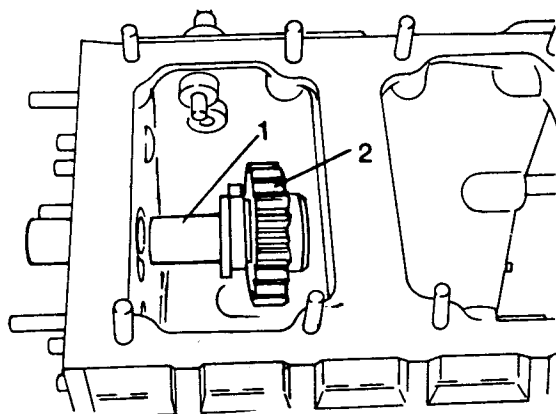

Fig H1.136
- (4) Refer to Fig H1.136. Push the shaft (1) into its housing in the casing.
- (5) Fit the gear (2) and introduce it on the shaft with the groove on the pad of the intermediate operating lever of the reverse pinion.